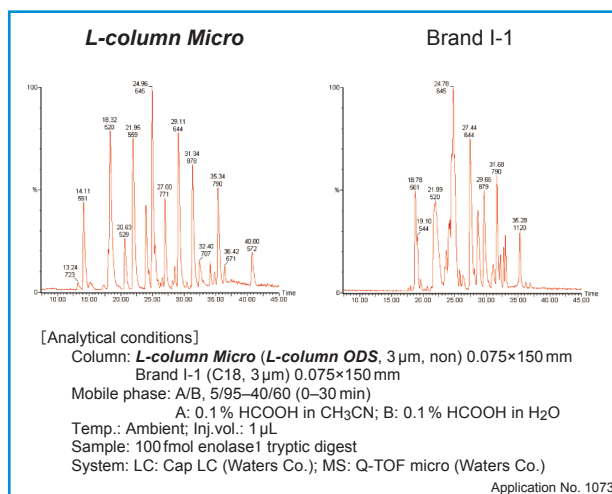

Fig. 24 TIC of enolase1 tryptic digest.
**L-column Micro** can separate many peptides because of the low-adsorption packing materials (Fig. 24). This is effective for the identification of proteins.